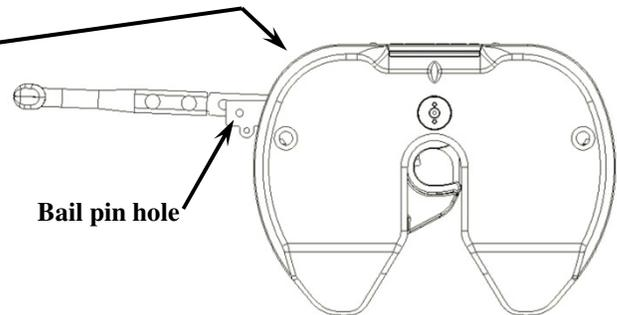

FIG. 10
- E. Make sure head is in Ready-to-Receive position (pg. 4, fig.10)